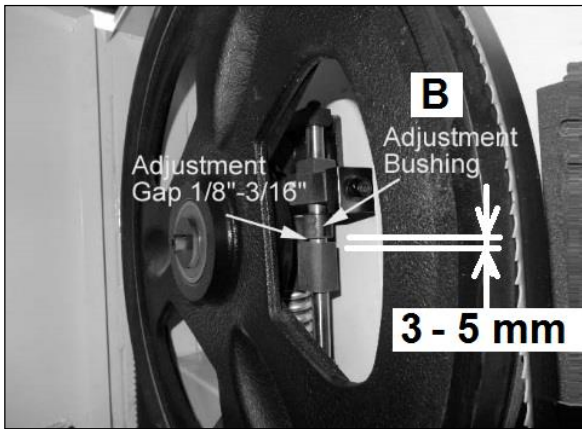

Fig 39
**JWBS-20:** Move stop bushing (B, Fig 39) until gap between stop bushing and wheel shaft hinge is 3 to 5mm.